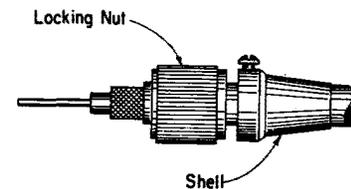

Fig. 43
- (c) Slide shell and locking nut over cable with large opening toward prepared end. See Fig. 43.